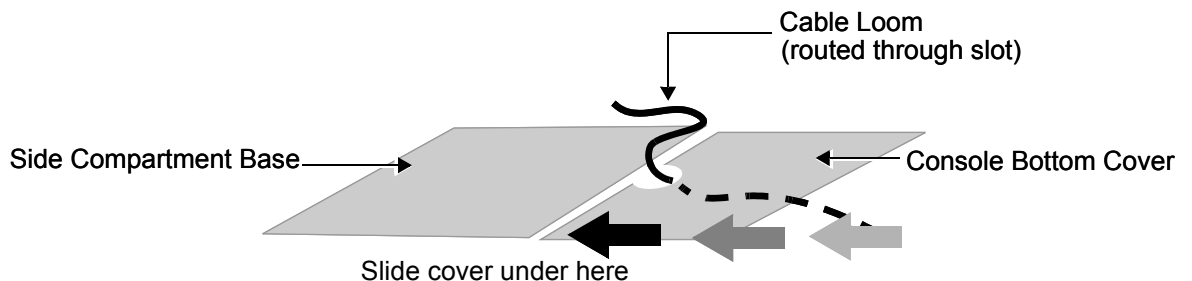

Figure 8-146 Routing Cable Loom through Slot in Console Bottom Cover (upper section)
21.) Return the console bottom metal cover (upper section) (removed in step 3). Make sure the VCR cable loom is properly aligned to pass through the slot in the cover (as shown in Figure 8-146 below) and that there is no kinking or pinching of the cables.